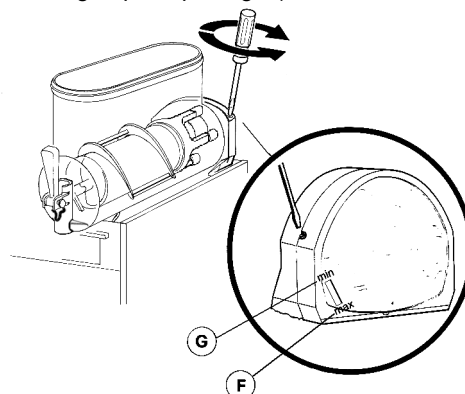

figure 4
- 1 **Granita viscosity adjustment:** proper Granita viscosity is factory preset. To change the viscosity, if needed, use a standard screwdriver to turn the adjustment screw located in the rear wall of each container as follows (see figure 4):